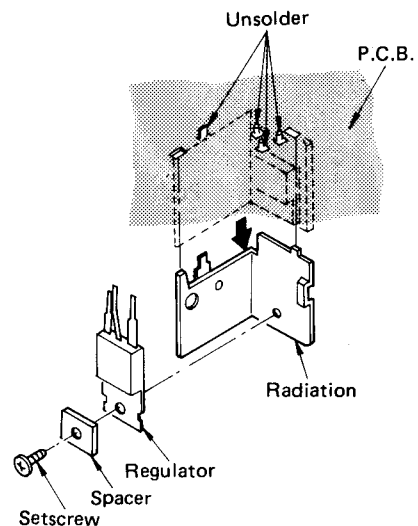

Fig. 6
2. Unsolder the regulator (Q3, 4) at 3 portions and the radiation plate at 1 portion. (Fig. 6)